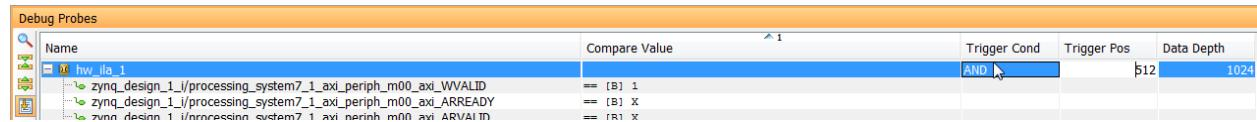

Figure 72: Change Debug Probe Settings
11. Change the trigger position to the middle of the 1024 sample window by setting the **Trigger Pos** for the `hw_ilal_1` core in the Debug Probes window to **512** (Figure 72).